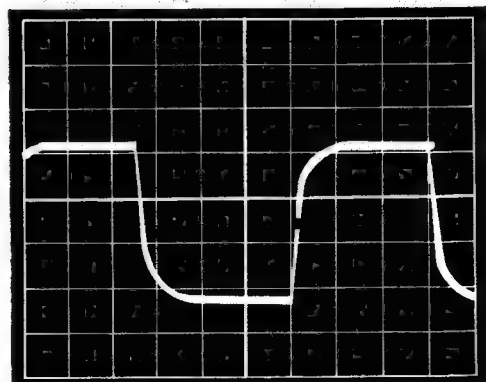

Fig. 4-1.
5. Adjust R731 so that the PG pulse appears midway between the positive and negative peaks. See Fig. 4-1.